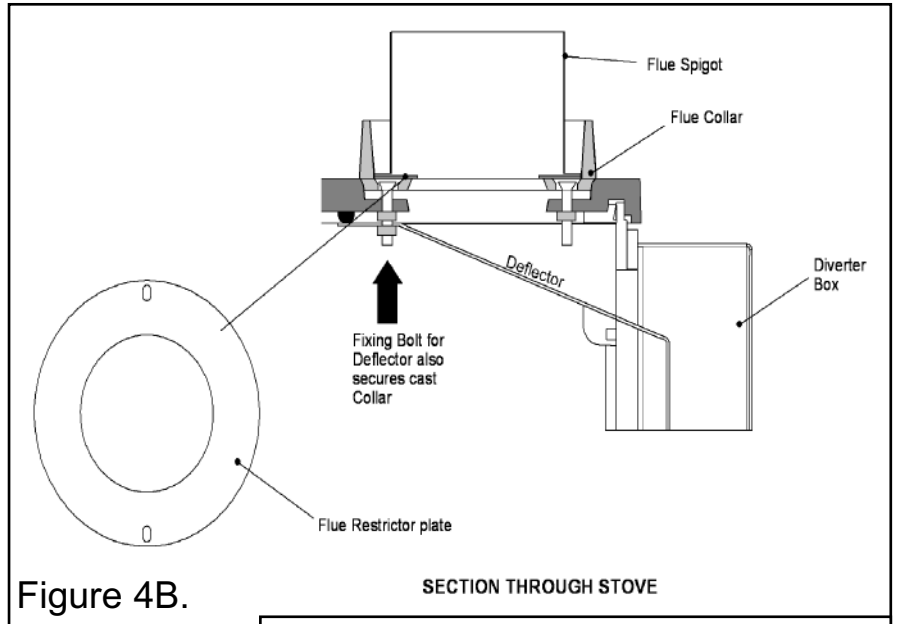

Figure 4B.
- The flue restrictor is for use where the flue draught is excessive. The flue spigot is screwed to the cast flue collar and clamps the flue restrictor plate in place (See figure 4B).